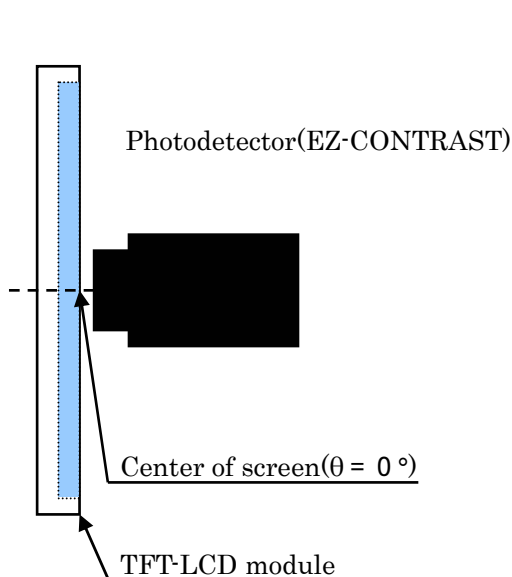

Fig.10-1 Viewing angle / Range / Contrast / Response time measurement method
*Measured after 30minutes operation. The optical characteristic is measured by using the method of fig.10-1 and fig.10-2 under the condition of the darkroom or equivalent to it.